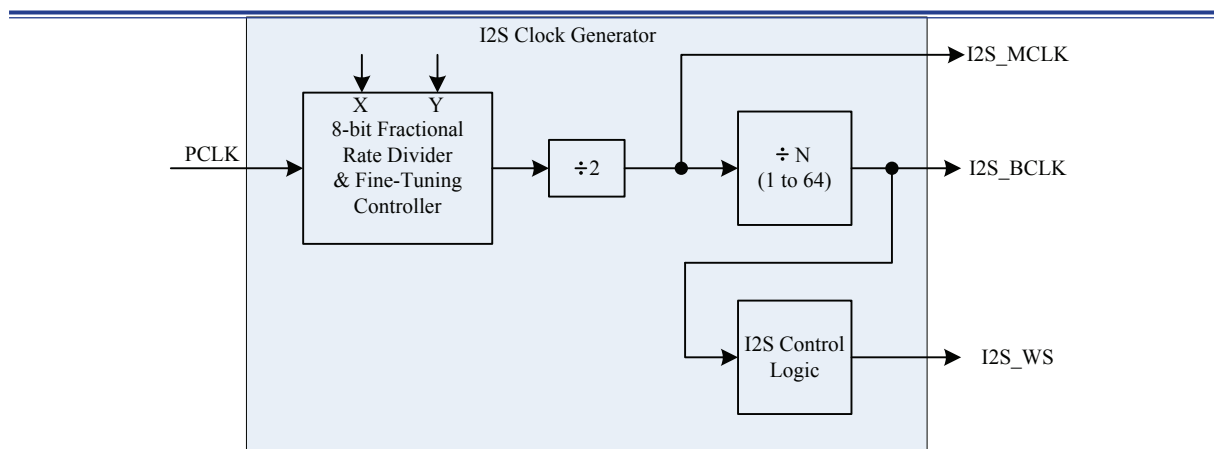

Figure 190. I²S clock generator diagram
The main (I2S_MCLK) and bit clock (I2S_BCLK) rates for the I²S are determined by the values in the I2SCDR register. The required I²S bit clock rate setting depends on the desired audio sample rate desired, the format (stereo/mono) used, and the data size. The main clock rate (I2S_MCLK) is generated using a fractional rate divider which is a divided down PCLK frequency of the I²S. Values of the numerator (X) and the denominator (Y) must be chosen to produce a frequency twice that of the main clock (I2S_MCLK). The output frequency of the divider is divided by 2 in order to get the duty cycle of the output clock more even. The I²S clock generator block diagram is shown in Figure 190. The equation for the fractional rate divider is: